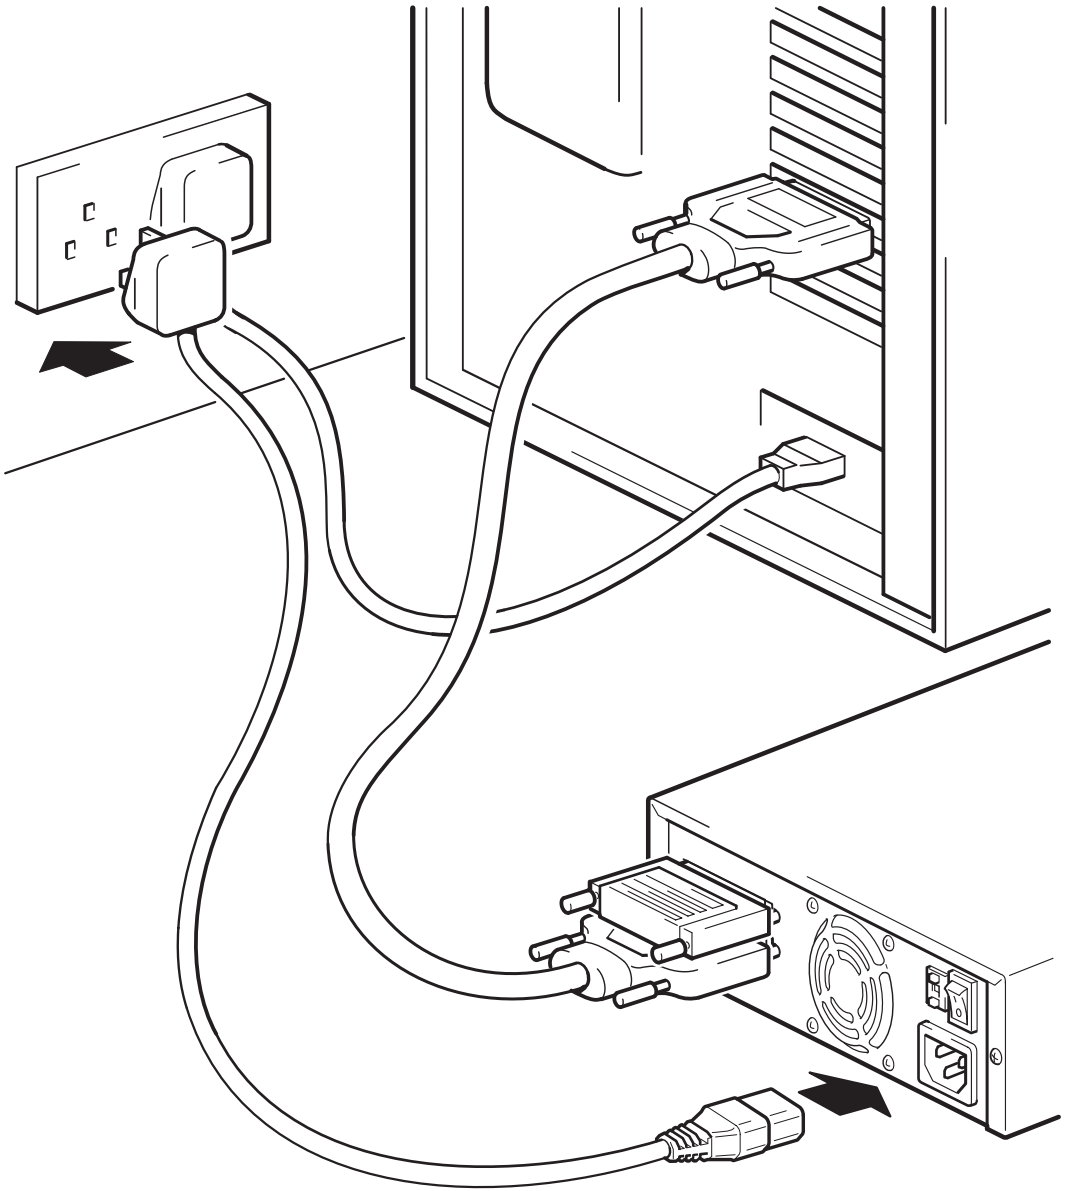

Figure 4: connecting the power cable
- 1 Plug the power cable securely into the socket on the rear panel of the drive. (See figure 4.)